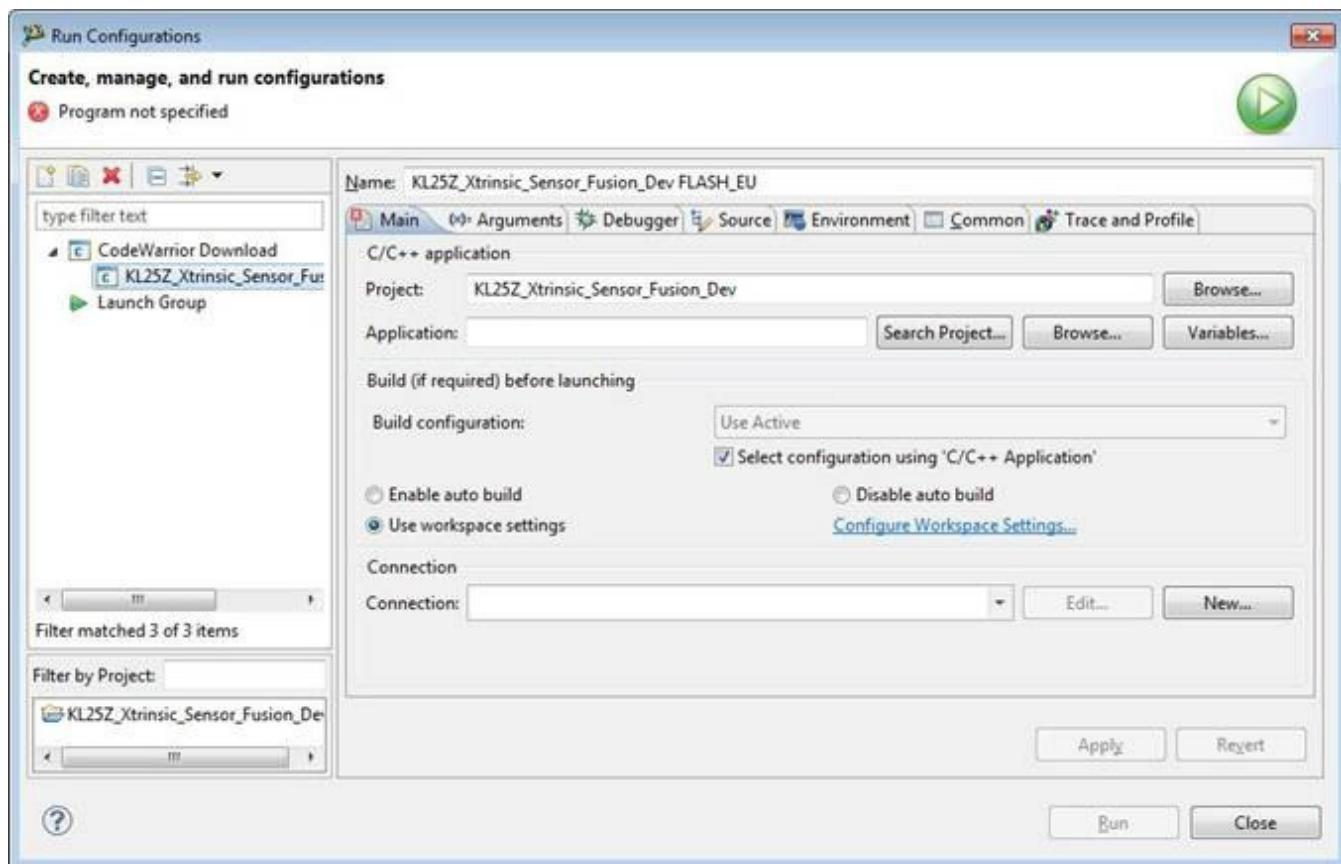

Figure A-2. CodeWarrior creating new launch configuration
2. Select **CodeWarrior Download** and then click the **New Launch Configuration** icon on the left. See Figure A-2.
3. Click the **New...** button to the right of the Connection field. See Figure A-2.